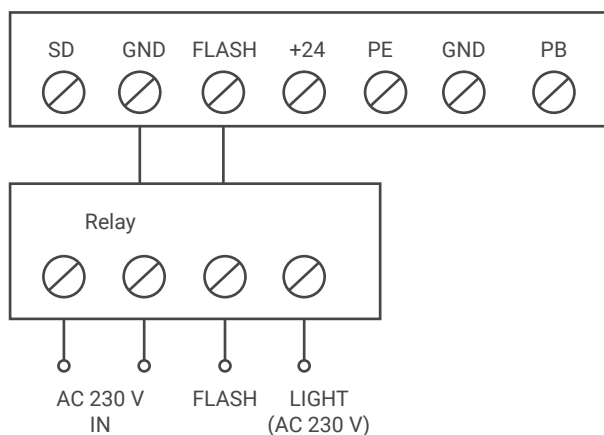
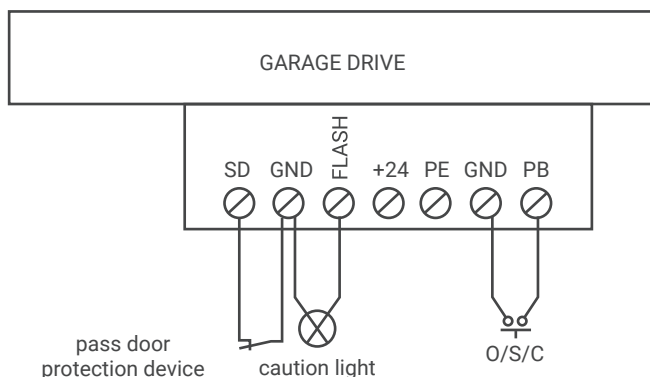

Fig. 18
Fig. 19
The O / S / C input can be used to control the drive using an external switch. The switch must have normally open voltage-free contacts (Fig. 19).
1. **The O / S / C input** allows you to connect a switch to control the drive (Fig. 19).
2. **The signal lamp** (Fig. 18 and Fig. 19).
3. **Pass door protection** (Fig. 19).
The drive is equipped with a mechanism for disconnecting the drive, which allows you to manually open or close the gate in the event of power failure or drive failure (Fig. 19). To disconnect the drive, pull the handle. To re-engage the drive, simply close the latch of the drive disconnect mechanism and then move the gate manually or start the drive until the latch locks on the belt or chain.